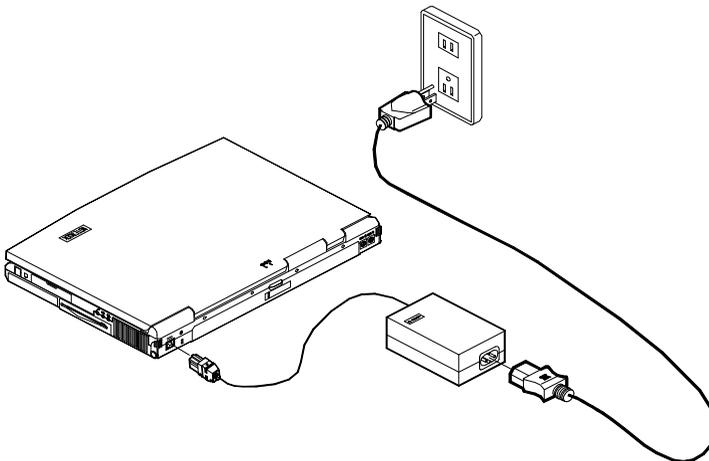

Figure 1-3
- 3** Connect the power cord to an electrical outlet (Figure 1-3).